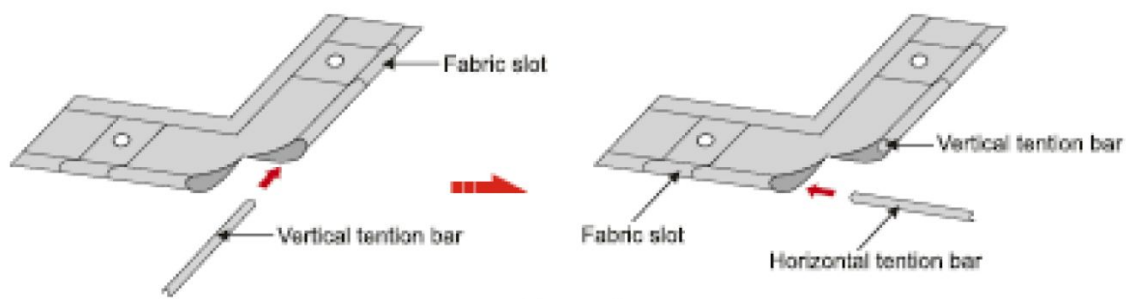

Figure 8
5. Insert the four tension bars into the pockets of the screen material. Be careful not to puncture the screen material (Fig. 8).